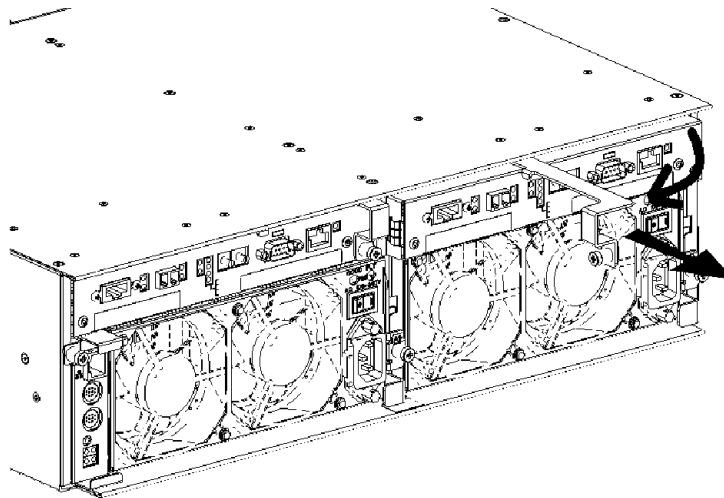

Figure 3-6. Removing the Defective Controller module.
- Open the ejector by pulling it towards the left. See Figure 3-6.